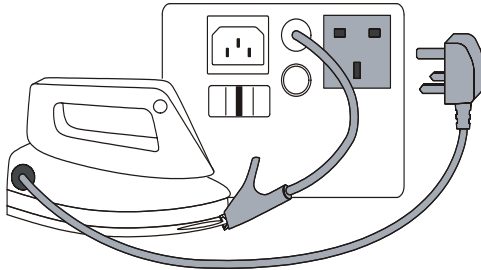

Figure 4. Bond Test Connections
- 1  Connect the appliance and the earth bond test lead as indicated on the tester, see also Figure 4.